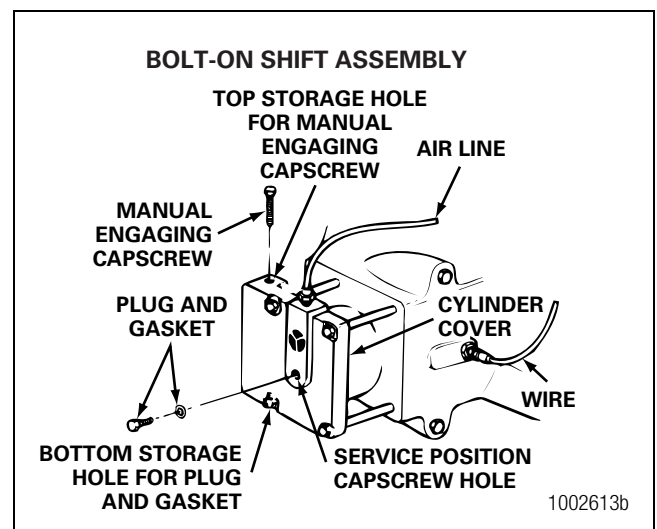

Figure 11.5
10. Remove the manual engaging capscrew from the storage hole. The storage hole of the bolted-on shift assemblies is located in the top side of the shift cylinder cover. Figure 11.5.
11. Remove the plug and gasket from the center of the shift cylinder cover. Install the plug and gasket into the bottom side storage hole of the shift cylinder cover, on the opposite end of the storage hole for the manual engaging capscrew. Tighten the plug to 15-25 lb-ft (20-35 N•m). Figure 11.5.
9. Install the manual engaging capscrew into the storage hole. The storage hole of bolted-on shift assemblies is located in the top side of the shift cylinder cover. Tighten the capscrew to 15-25 lb-ft (20-35 N•m). Figure 11.5.